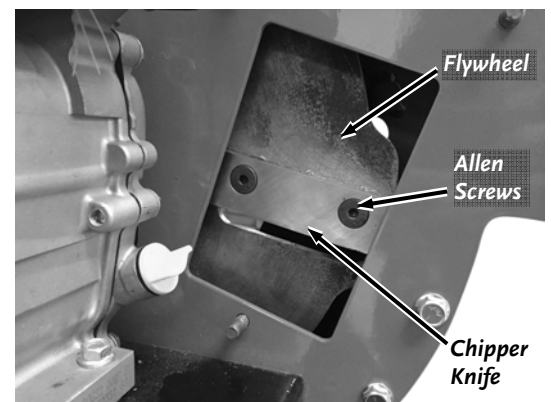

Figure 27
4. Clean out the heads of the Allen Screws with an awl or sharp tool (**Figure 27**).